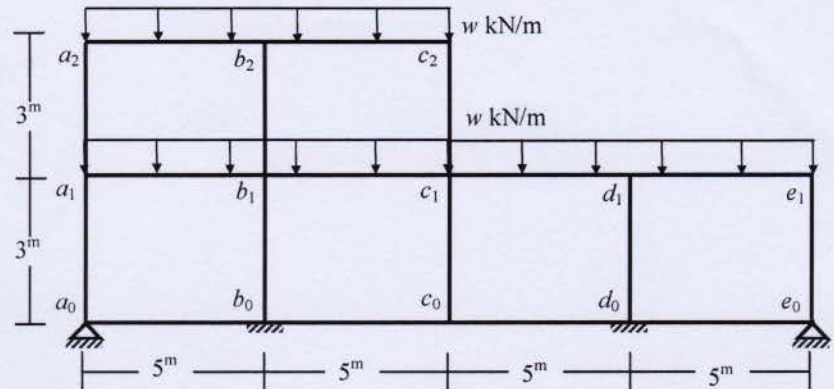

Fig. 6(b)
8. The hospital building shown in Figs. 6(a), 6(b) is constructed of a material with stress-strain relationship  $\sigma = 100 [1 - \text{Cos}(100\varepsilon)]$ , where  $\sigma$  is compressive stress (MPa) and  $\varepsilon$  is strain. Calculate the critical force for the member  $b_1b_2$ , which has a  $(0.3\text{m} \times 0.3\text{m})$  square section.